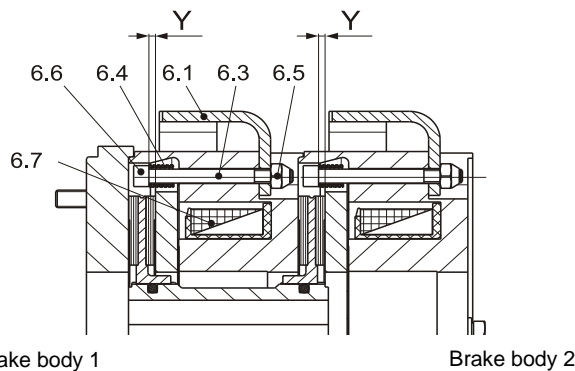

Fig. 5
Hand Release Installation (Fig. 5) Manufacturer-side
The installation procedure is identical for brake bodies 1 and 2 (see Fig. 5).
2. Push the threaded bolts (6.3) with thrust springs (6.4) from the inside (you should be facing the magnetic coil (6.7)) into the hand release bores in the coil carrier (3).
4. Tighten both hexagon nuts (6.5) evenly, until the specified adjustment dimension "Y" (Fig. 5 and Table 4) is reached.